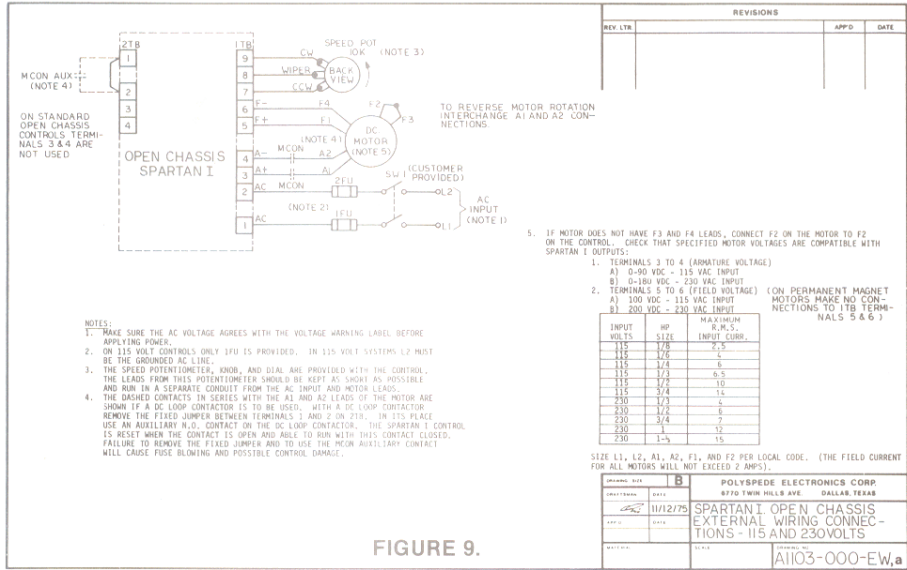

FIGURE 9.
Connections are made to open chassis control by means of terminal strips 1TB and 2TB. Use spade or ring lugs to make these connections. Figure 9 shows the proper external connections. In addition, in Figure 9 a table is given indicating AC line input and armature currents for the various horsepower sizes.
- 1) If the motor has four field leads, connect them as shown in the open chassis external connections diagram, Figure 9. If only 2 leads are supplied as field leads on the motor, connect F2 of the motor to 1TB terminal 6. Make sure that the motor, if not supplied by Polyspede, is compatible with the control. Voltage between the terminals 5 and 6 should read approximately:
f) Terminals 1 and 2 on 2TB not connected (Open Chassis control only)	Either a permanent jumper or contact closure must be used to permit control operation. See A1103-000-EW for further details (Figure 9).